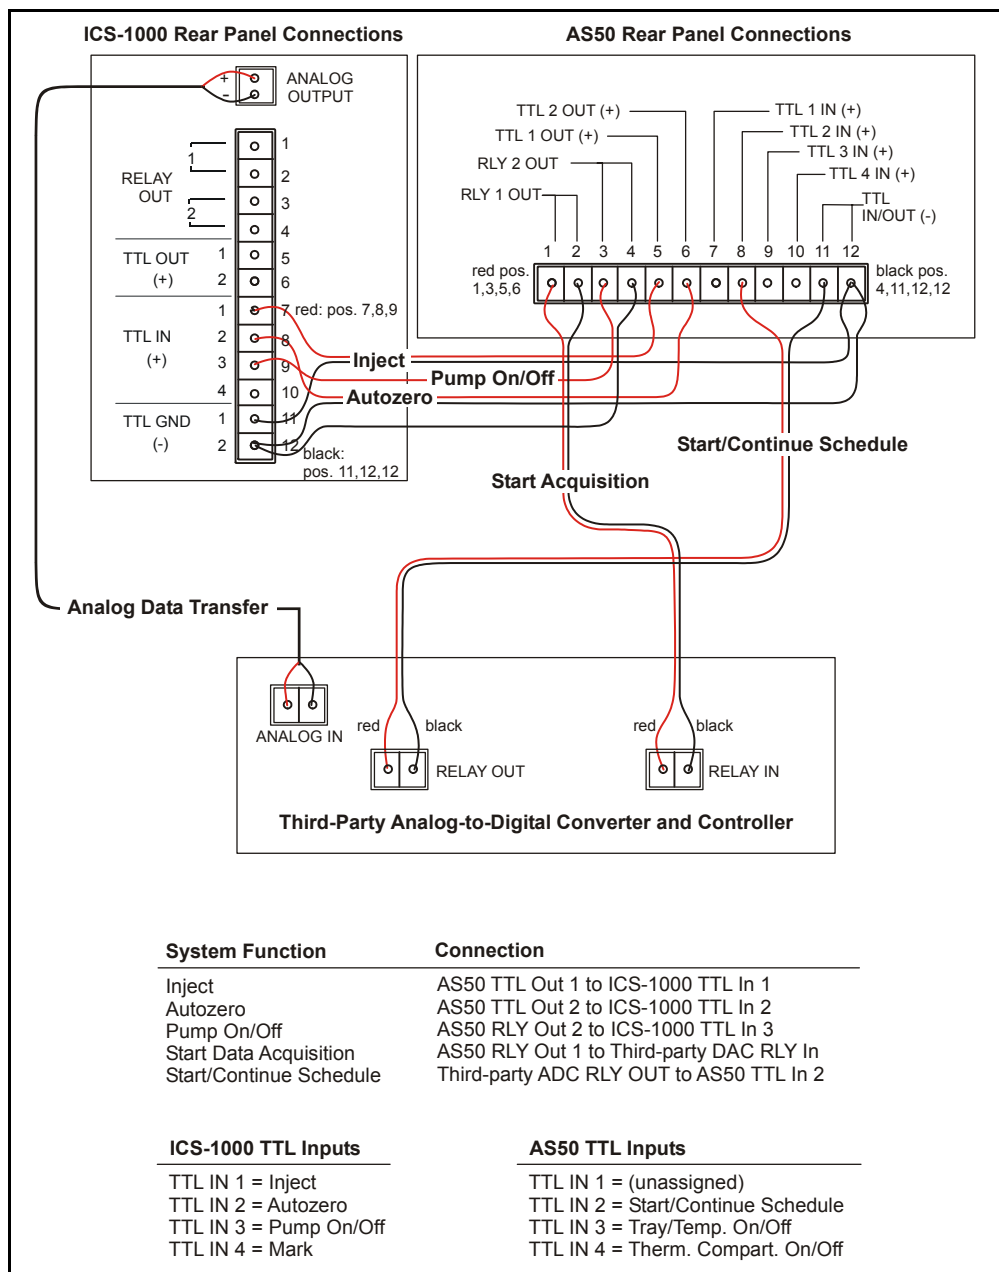

Figure C-6. Example Connections for Stand-Alone Operation
2. Attach the wires to the connector plug positions indicated in Figure C-6.
2. Connect the analog input connector on the third-party controller to the **ANALOG OUTPUT** connector on the ICS-1000 rear panel (see Figure C-6).
Figure C-8 is an example of AS50 method timed events that can be used with the TTL/Relay connections shown in Figure C-6.